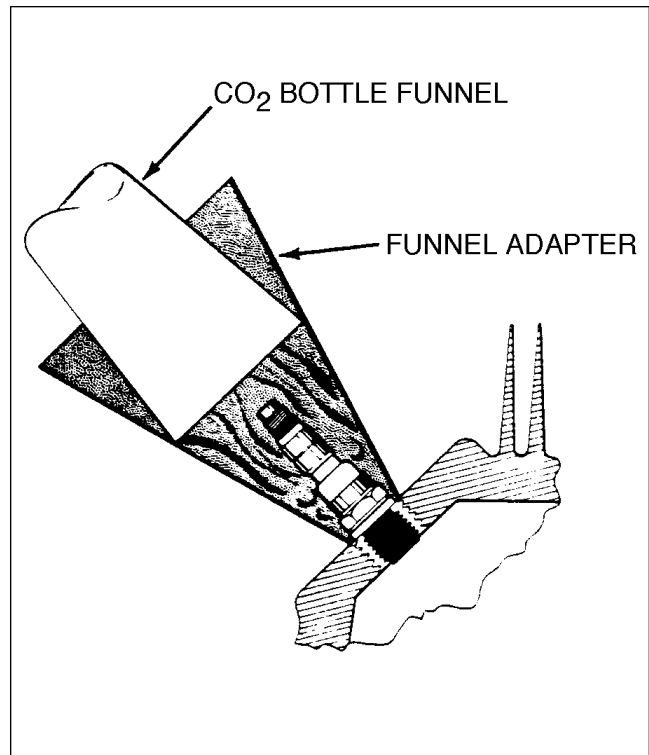

Figure 8-34. Removing Spark Plug Frozen to Bushing
1. Apply liquid carbon dioxide by using a conical metal funnel adapter, with a hole at the apex precisely large enough to accommodate the funnel of a CO2 bottle. (Refer to Figure 8-34.)